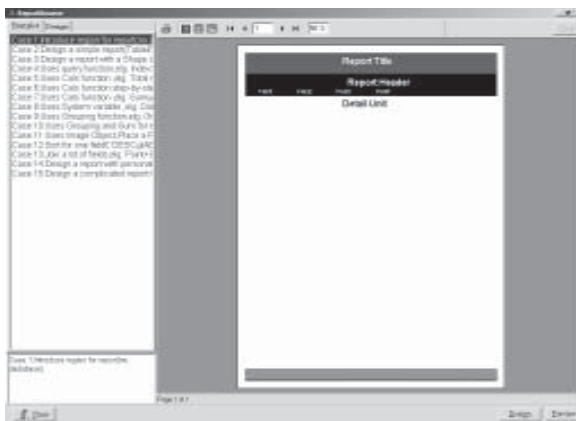
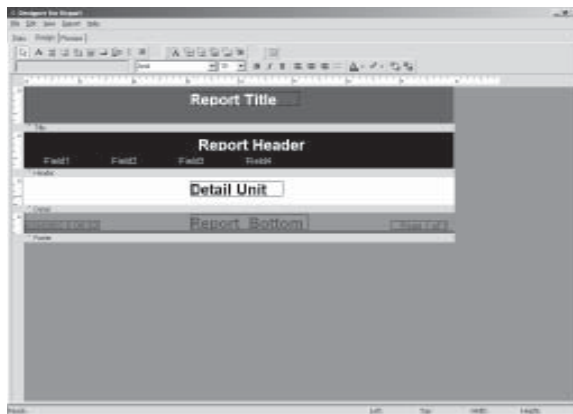

Fig. 8-19 Click the Listing Option Once
Fig. 8-20 Click the Listing Option Twice
1. The example of browsing the report. Select the page key ;°Examples;±. Click the listing option in the listing table, the browsing results will be shown in the sub-interface as in Fig. 8-19. Double click the listing option, the designing interface will be shown as in Fig. 8-20. And the example is non-changeable.